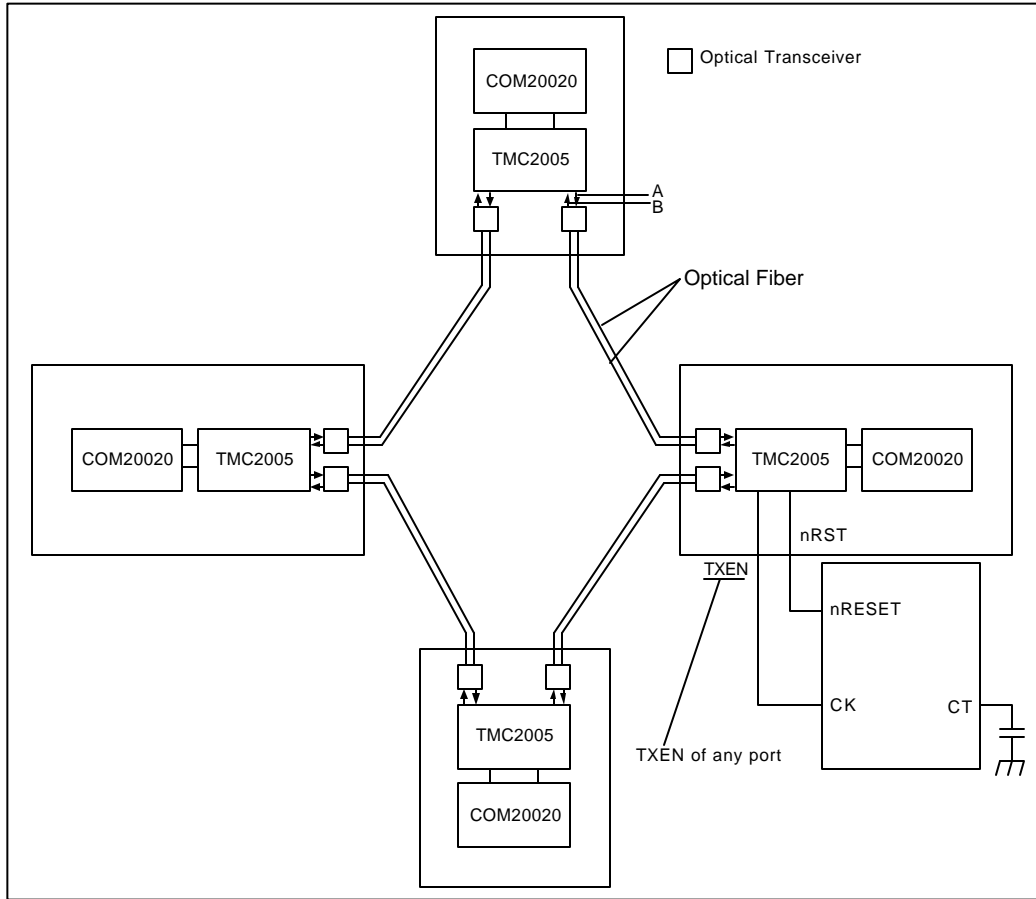

FIGURE 16 - RING CONFIGURATION
The reliability of the network can be improved by connecting every node in a ring, because the communication is maintained through the reverse route even if the cable is cut at a point. However ARCNET controller alone can not support ring, because ARCNET is a half-duplex communication system. Using HUBs makes possible for ARCNET to built a ring network as in Fig.16. This configuration is available only for using fiber optics.
- A noise occurs only at "A" point in Figure 16.
- Any noise occurs at "A" and "B" points in Figure 16 at the same time.